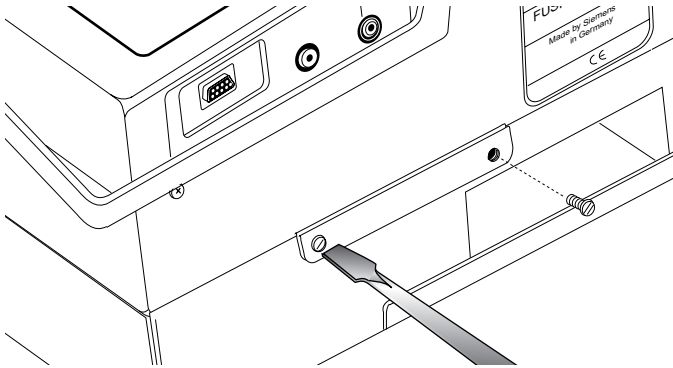

Figure 6
- a) Remove the four slotted screws which secure the adapter plate brackets to the power supply (Figure 6).